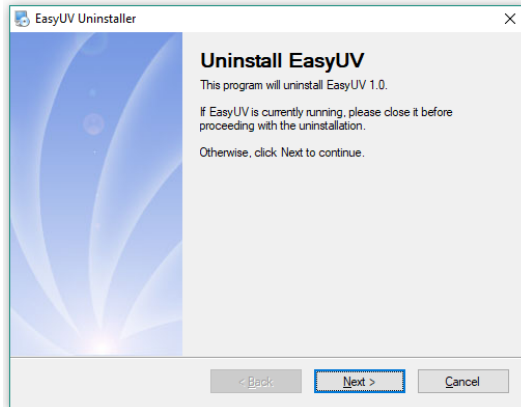

Fig. 2.4-1 Uninstall
- click **Next** to start unistall (Fig. 2.4-1);